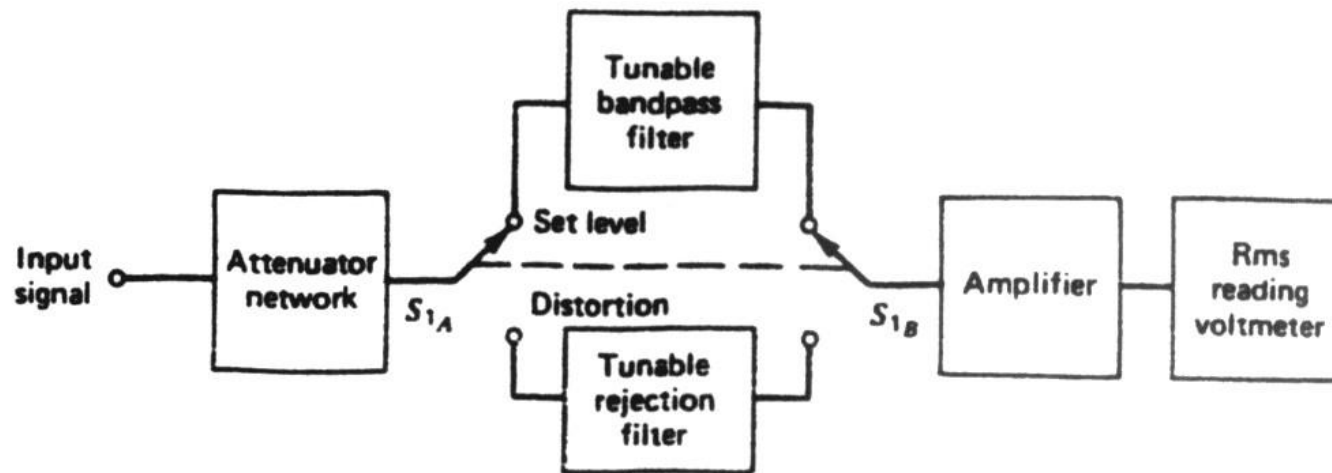

Fig. 1 Block diagram of a distortion analyzer.
- A block diagram for a fundamental-suppression harmonic analyzer is shown in Fig. 1. When the instrument is used, switch  $S_1$  is set to the "set level" position, the band pass filter is adjusted to the fundamental frequency and the attenuator network is adjusted to obtain a full-scale voltmeter reading.